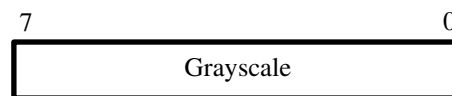

Figure 16. 8-bit Grayscale RGB Color Space.
- 1-Bit Black/White — This is a special case of the RGB color space where only two colors can be represented, black (0) and white (1). This mode is defined as 1 bit per symbol and one symbol per beat.
- 8-Bit Grayscale — This is a special case of the RGB color space where three colors have the same intensity and therefore produces shades of gray. Figure 16 shows the format of the 8-bit Grayscale data. This format is equivalent to YCrCb 4:0:0 color space. This mode is defined as 8 bits per symbol and one symbol per beat.